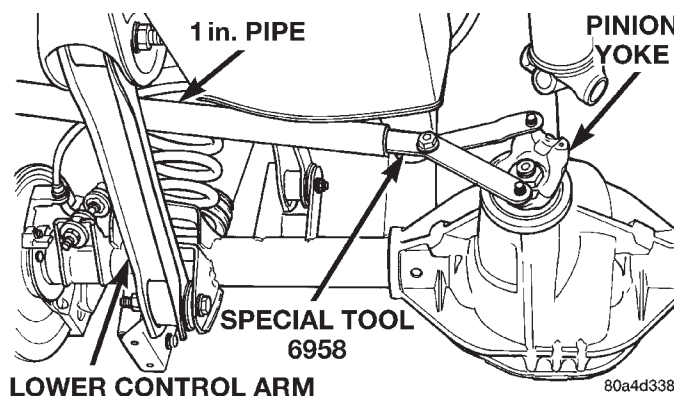

Fig. 7 Pinion Yoke Holder
- (1) Raise and support the vehicle.
- (2) Remove wheel and tire assemblies.
- (3) Remove rear brake rotors and calipers. Refer to Group 5, Brakes, for proper procedures.
- (4) Mark the propeller shaft and pinion yoke for installation reference.
- (5) Remove the propeller shaft from the yoke.
- (6) Rotate the pinion gear three or four times.
- (7) Measure the amount of torque necessary to rotate the pinion gear with an (in. lbs.) dial-type torque wrench. Record the torque reading for installation reference.
- (8) Using a short piece of pipe and Holder 6958 to hold the pinion yoke, remove the pinion nut and washer (Fig. 7).